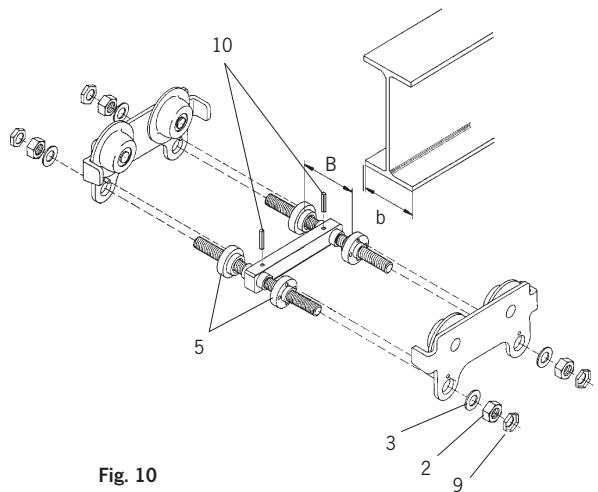

Fig. 10
Assembly of the trolley 1,6 - 5 t (see Fig. 10)
1. Unscrew the locking nuts (item 9) and hex nuts (item 2) from the crossbars (item 1) and remove both side plates (item 6) from the trolley.
2. Measure the flange width of the beam (see Fig. 10 - measure b).